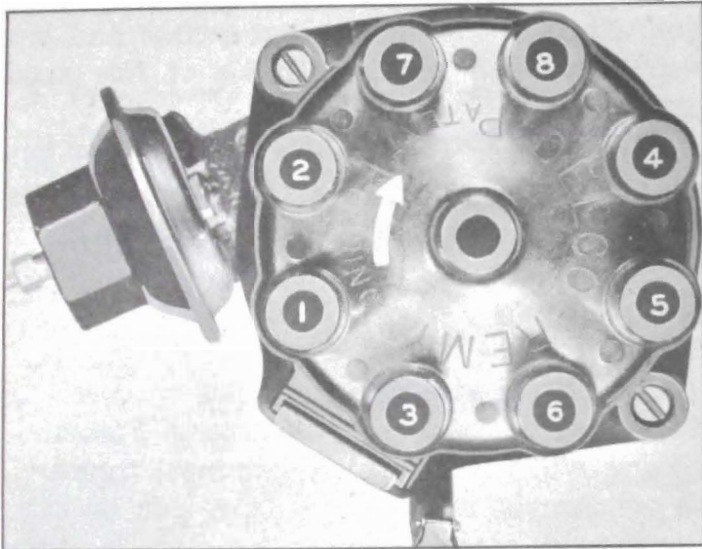

Figure 10-44—Installing Spark Plug Wires in Cap
5. Install distributor cap. Make sure that spark plug wires are correctly installed in distributor cap, through clips on rocker arm covers, and on spark plugs. See figure 10-44.
tributor cap terminal just forward of the vacuum advance unit. The other wires are then installed in a clockwise direction according to the firing order, 1-2-7-8-4-5-6-3. See figure 10-44.